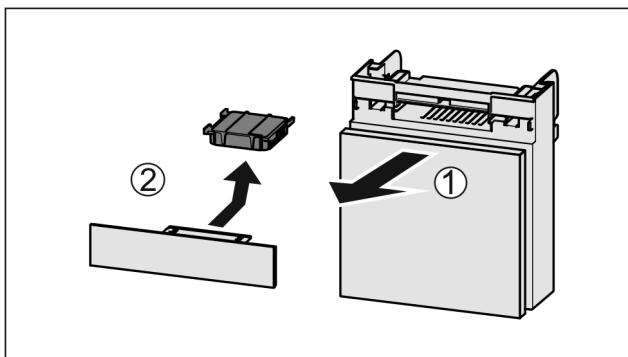

Fig. 189
- ▶ Pull out the compartment Fig. 189 (1).
- ▶ Remove the carbon filter Fig. 189 (2).